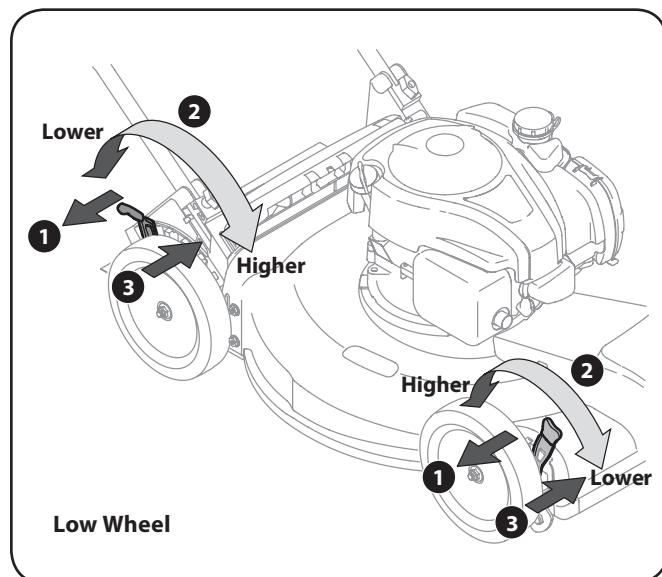
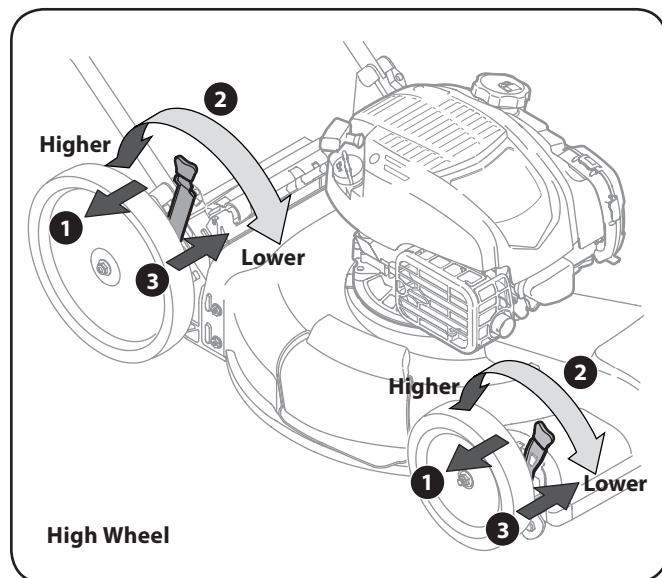

Figure 3-10
Figure 3-11
2. Move lever to desired position for a change in cutting height. See Figure 3-10 and Figure 3-11.